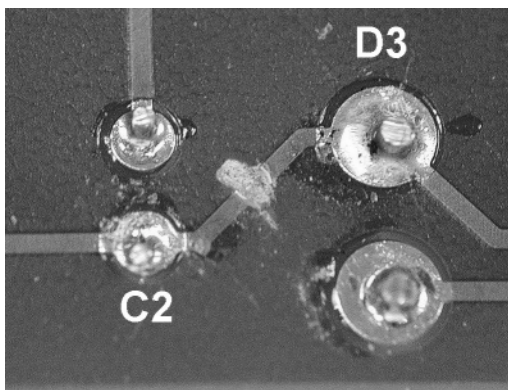

Figure 3
- 9) Using a SHARP a sharp knife (an X-acto knife, or single-edged razor blade are preferable) CAREFULLY cut the trace between C2 and the cathode (banded) end of D3 (see Figure 3 on the following page),